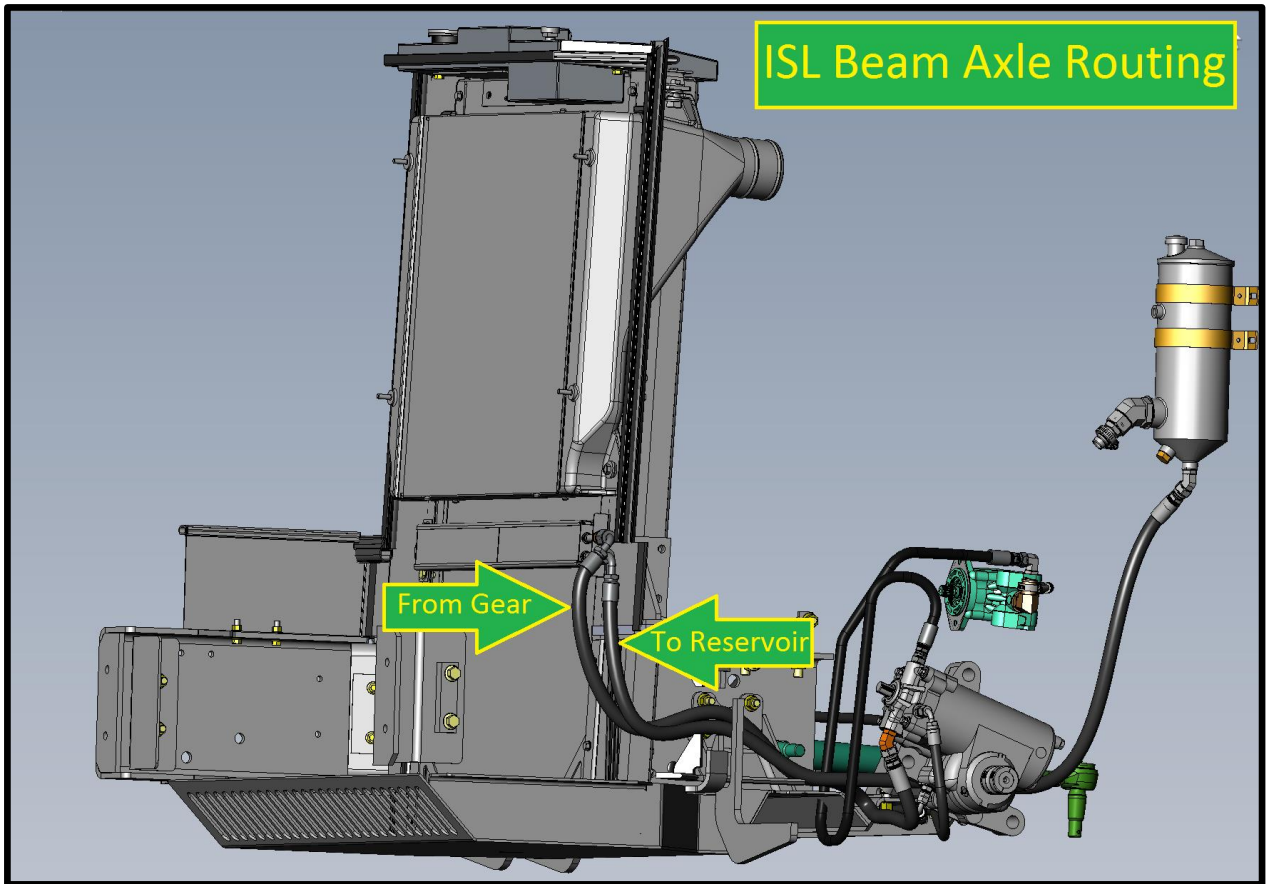

FIG. 7-1 - ISL Beam Axle Hose Routing Shown (ISX with Beam Axle is Similar)
6. Route and install newly provided #10 return hose that goes from steering gear to top of power steering cooler. Torque fittings to 55 ft.-lbs. Refer to FIG. 7-1 and 8-1.
7. Route and install newly provided # 10 return hose that goes from power steering cooler to hydraulic reservoir. Torque fittings to 55 ft.-lbs. Refer to FIG. 7-1 and 8-1.